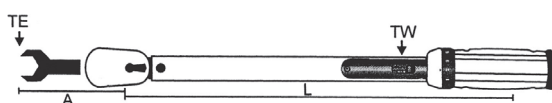

Fig. 4
- When extensions or adapters are used, the torque value changes. An extension increases the effective length of the tool. The new torque performance of the wrench may be calculated with the following formula: $TW=(TE \times L)/(L+A)$. (Fig. 4)